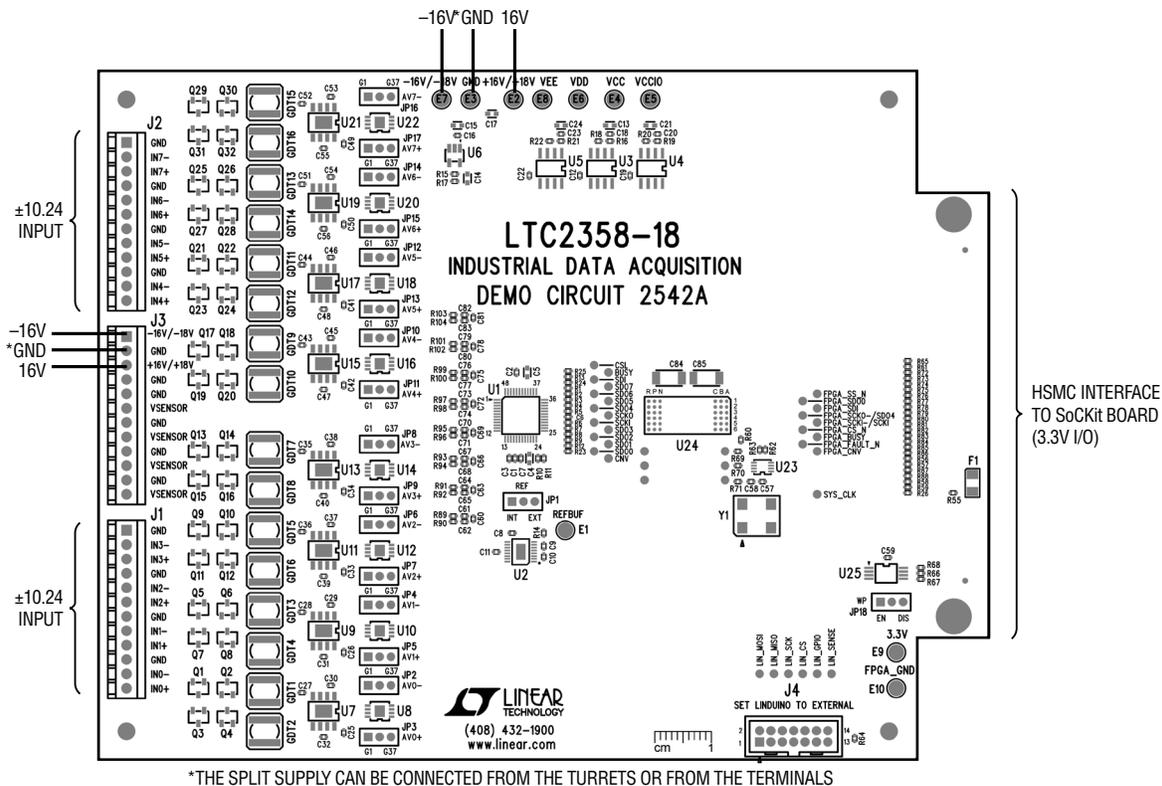

Figure 1. Connection Diagram
- 6) Apply $\pm 16V$ to the indicated terminals. Refer to Figure 1 for locations.